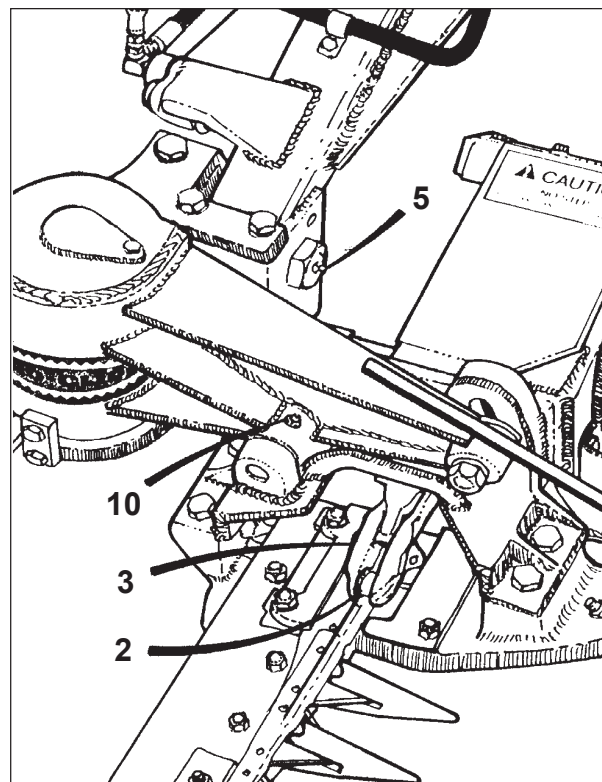

FIGURE 6
2. Knife head connection Figure 6
3. Knife head guides (2500 & 3500 models) Figure 6
5. Knuckle bolt Figure 6
10. Rocker Pin every 50 Hr. (2500-3500 Models) See Figure 6